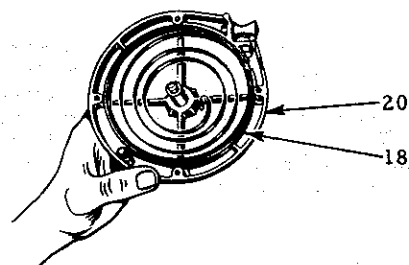

FIG. 10
2. Spring holders furnished with replacement springs simplify the assembly procedure. Place spring in proper position as shown in Fig. 10, with the outside loop engaged around the pin. Then press spring into cover cavity thus releasing the spring holder. A few drops of SAE 20 or 30 oil should then be applied to spring and light grease on cover shaft.